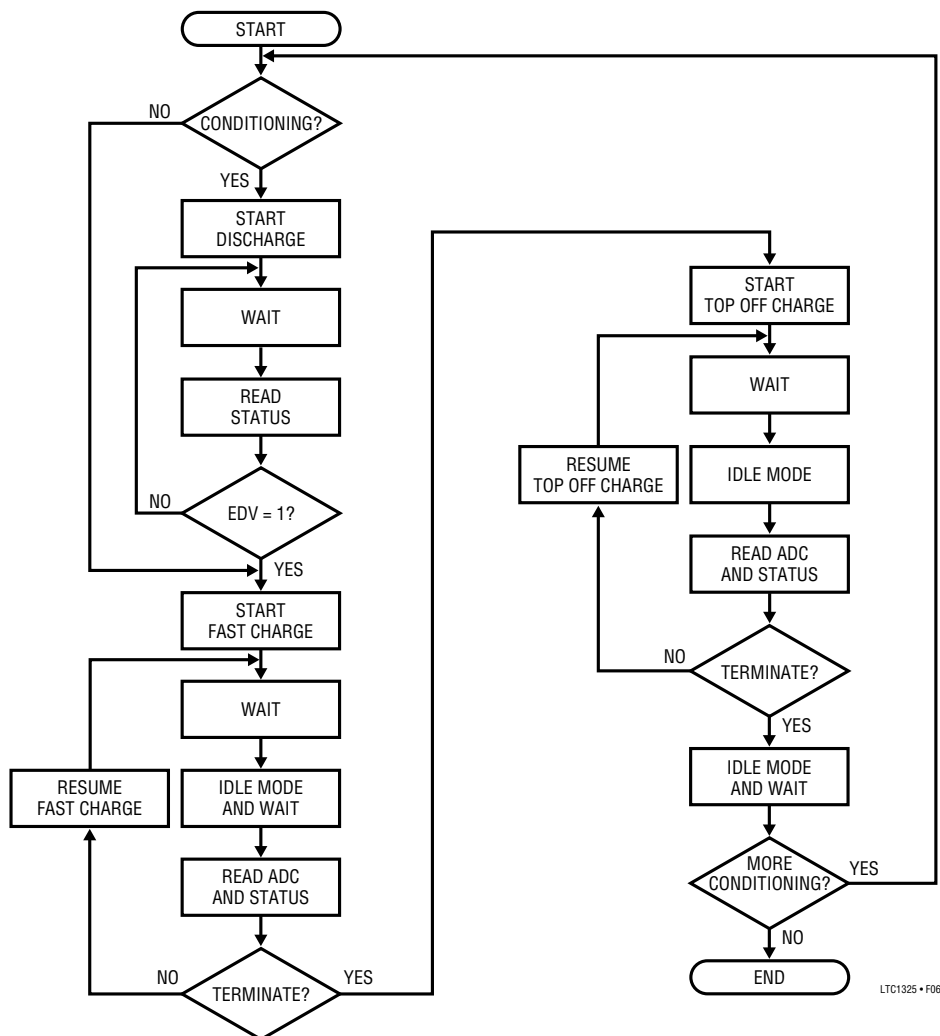

Figure 6. Simple Charging Algorithm
Figure 6 shows a simplified flowchart of a charging algorithm. In practice, this flowchart has to be augmented to take into account the occurrence of fail-safes at any point in the algorithm. For example, the battery temperature could rise above HTF during discharging or charging. General programming notes are as follows:
- The FSCLR bit should be set to 1 to clear any faults and reset the timer when starting Discharge, Fast charge or Top Off. The status bits that the LTC1325 returns during the same I/O operation (that FSCLR is set to 1) should be checked to determine if faults were indeed cleared, i.e., discharging or charging has begun. This is not shown in the simplified flowchart of Figure 6. For commands other than the START commands, FSCLR should be set to 0 so as not to reset the timer.